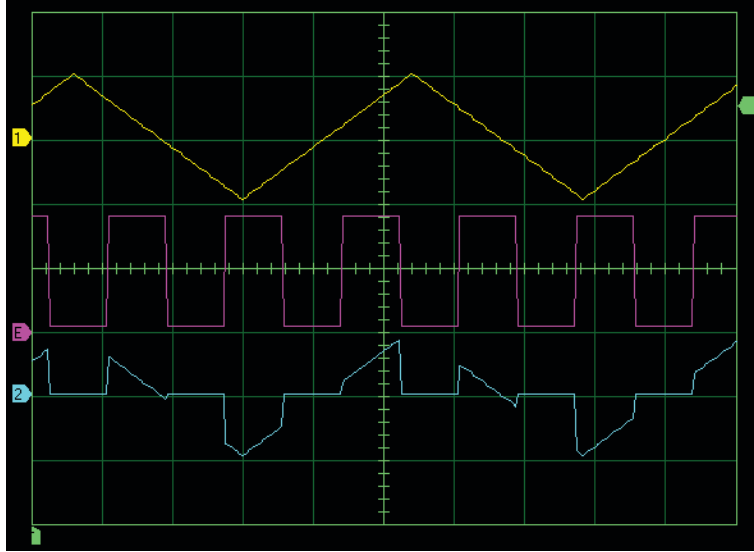

Figure 2-9. Message signal, 3 kHz sampling signal and PAM signal.
- Decrease the frequency of the sampling signal to 3 kHz. Figure 2-9 shows an example of settings and what you should observe.